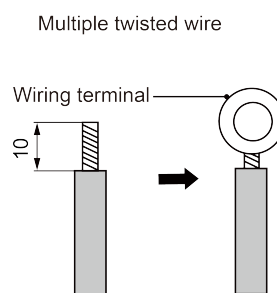

Fig. 5.2
- (2) The connection of stranded wire (as shown in Fig. 5.2)